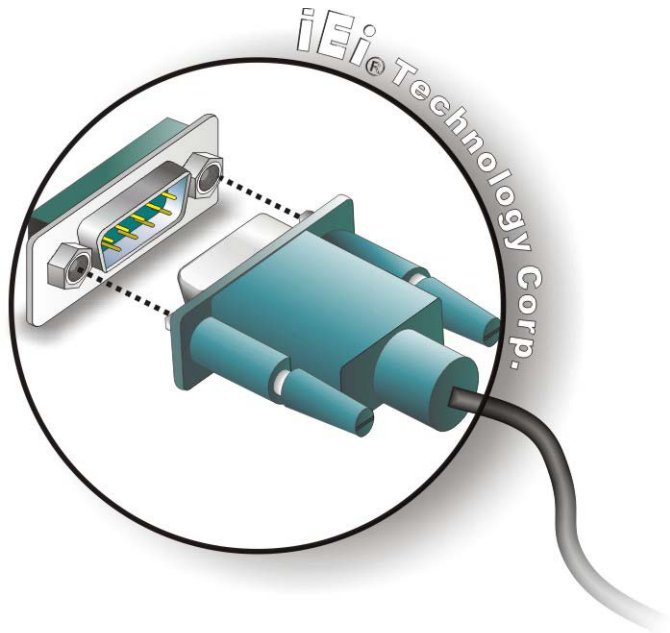

Figure 3-19: Serial Device Connector
Step 2: **Insert the serial connector.** Insert the DB-9 connector of a serial device into the DB-9 connector on the external peripheral interface. See **Figure 3-19**.